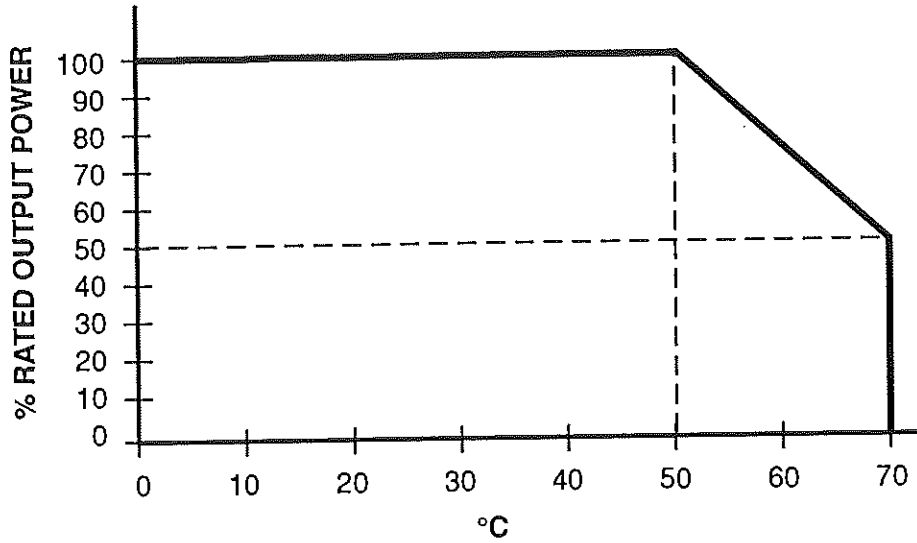

Figure 7. Output Power vs. Ambient Temperature.
- 9.3 **Output Power.** Rated continuous output power from all DC Power Modules in a given configuration is 1200 watts maximum for 220 to 240 VAC nominal input voltage and 1000 watts maximum for 120 VAC nominal input voltage. 100% of rated output power can be drawn up to 50°C ambient temperature. Above 50°C the output must be derated at 2.5%/°C up to 70°C. See Fig. 7. The maximum operating temperature is 70°C.